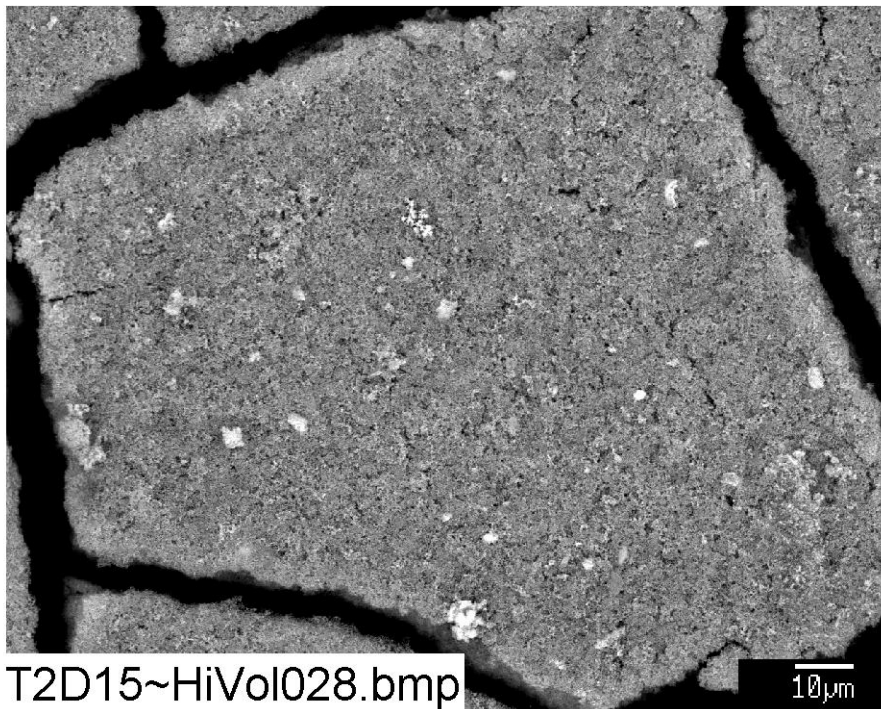

Figure A-2. Backscatter SEM image at 800 \times magnification for a Test #2, Day-15 sample of particles on a high-volume filter. (T2D15_HiVol028)
- Figure A-2. Backscatter SEM image at 800× magnification for a Test #2, Day-15 sample of particles on a high-volume filter. (T2D15_HiVol028)..... A-4
- Figure A-3. EDS counting spectrum for the darker filtrate material shown in Figure A-2, indicating that the dark material is rich in calcium and phosphorus. (T2D15EDS1~Dark Filter Particle)..... A-5
- Figure A-4. EDS counting spectrum for bright flecks on BSE image shown in Figure A-2, suggesting that they are rich in iron, oxygen, and silicon. (T2D15EDS2-Light Spot on Filter)..... A-7
Figure A-3. EDS counting spectrum for the darker filtrate material shown in Figure A-2, indicating that the dark material is rich in calcium and phosphorus. (T2D15EDS1~Dark Filter Particle)
Figure A-4. EDS counting spectrum for bright flecks on BSE image shown in Figure A-2, suggesting that they are rich in iron, oxygen, and silicon. (T2D15EDS2-Light Spot on Filter)